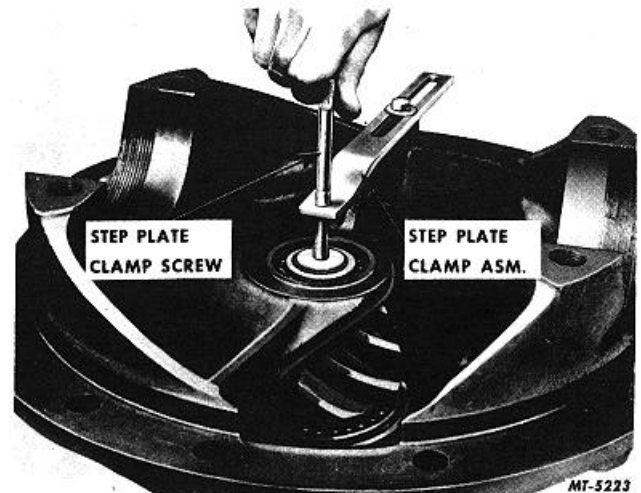

Fig. 26 Locating Step Plate Clamp
2. Attach the step plate clamp assembly to the carrier flange and locate step plate clamp screw over the center of the pinion as shown in Fig. 26.